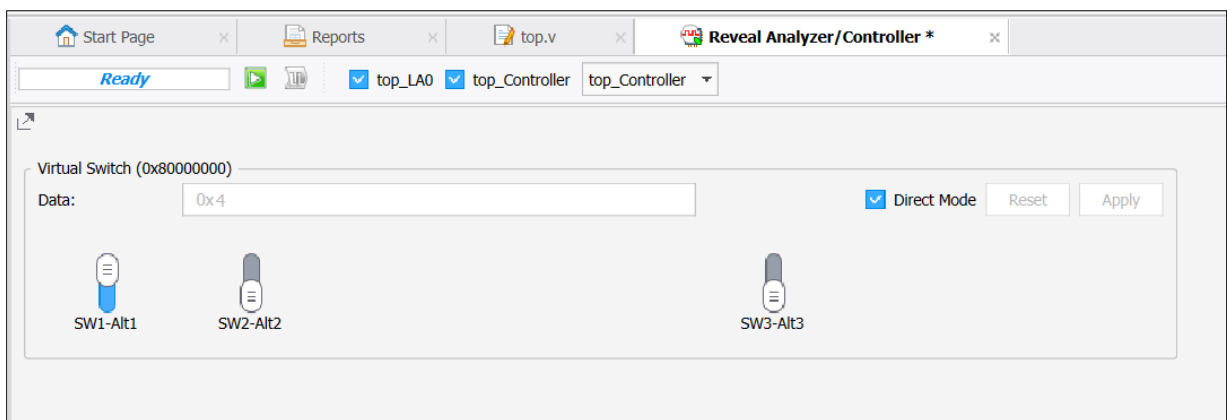

Figure 7.6. Toggle SW-Alt1
4. Toggle SW-Alt1 (Figure 7.6).